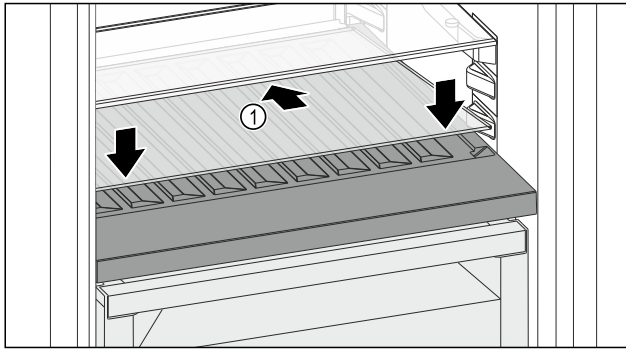

Fig. 141
- Place the glass shelf Fig. 141 (1) at an angle, sloping it downwards and backwards.
- Lower the glass shelf Fig. 141 (1) at the front.